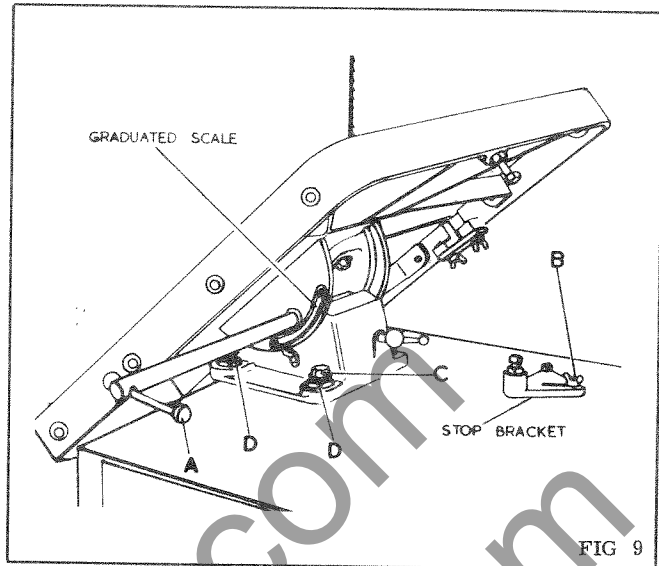

FIG 9
1. Loosen the table locking lever "A" in Fig. 9
1. Loosen wingnut "B" in Fig. 9 and swing stop bracket clear of the stop screw in the table.
If adjustment is necessary loosen the  $4-3/8$ " whit bolts "C" in Fig. 9 and adjust the two fine thread adjusters "D" until table is correctly set. When set tighten all screws.